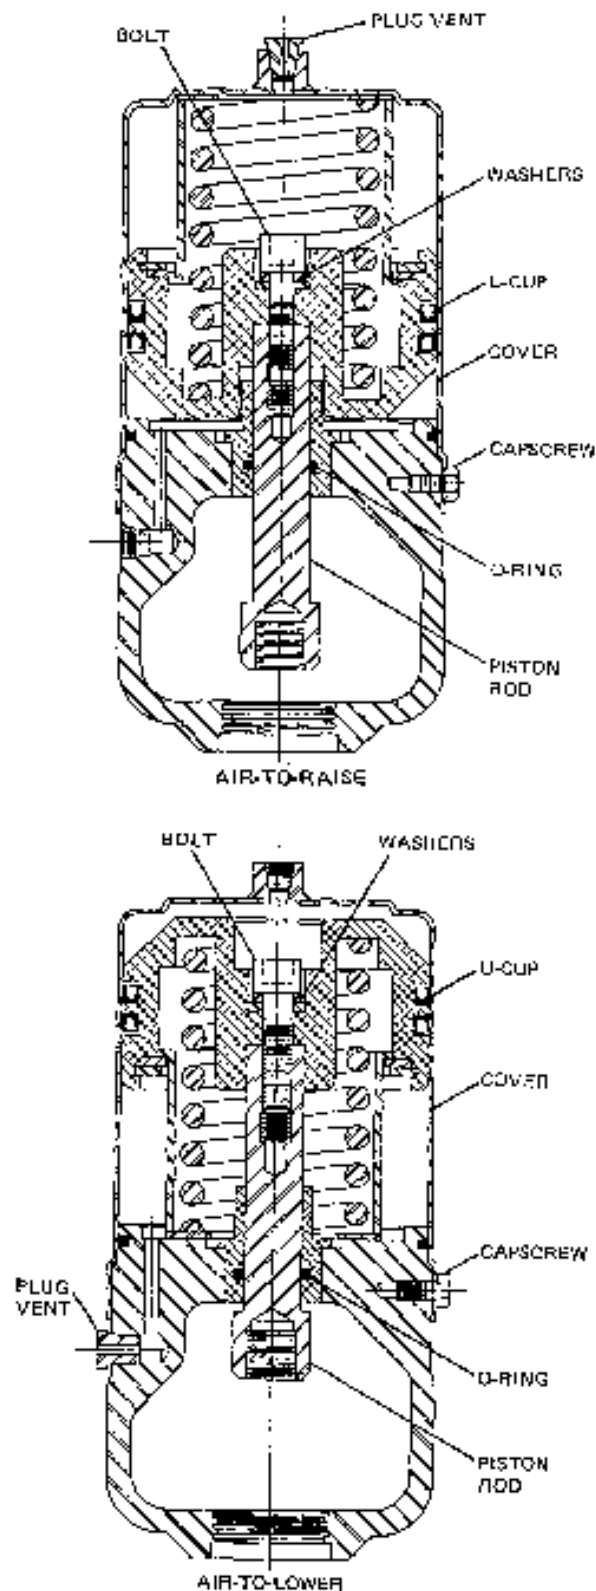

Figure 8. Reversing Valve Action
2. Using an Allen wrench, remove the 7/16" bolt located in the center of the actuator. See Figure 8.
3. Using an Allen wrench, remove the 7/16" bolt. See Figure 8.